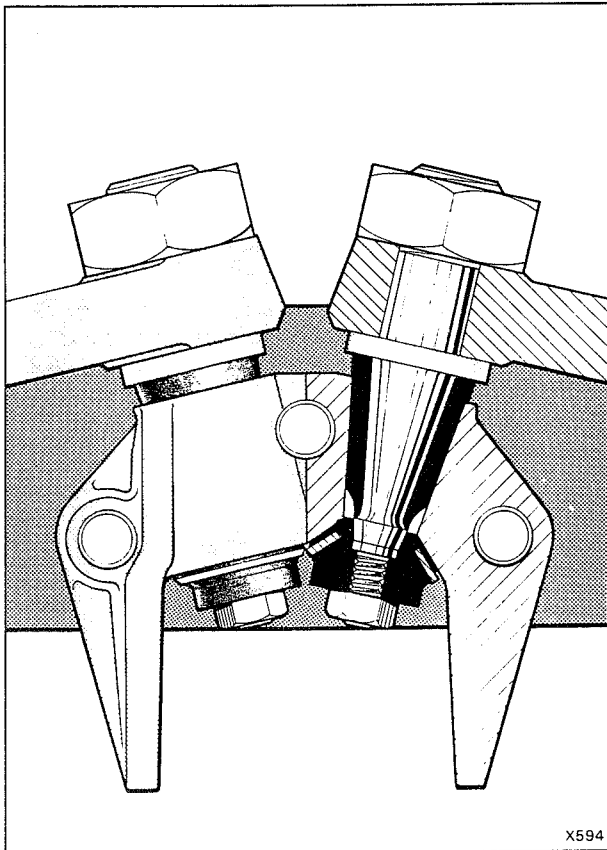

Fig. H13 Front triangle lever mounts
8. Slacken the large nuts securing the lower triangle levers to the sub-frame pivot bushes (see Figs. H13 and H14).
1. Assemble the triangle levers onto the pivot bushes as shown in figures H13 and H14. Do not tighten the large retaining nut.